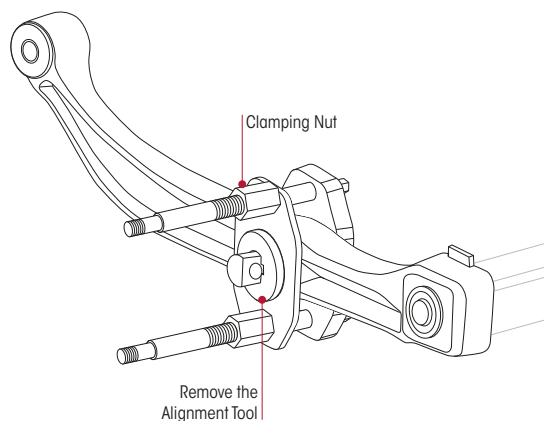

Figure 70: Tighten Nuts & Remove Alignment Tool
5. Tighten the clamping nuts to the clamping plate. Refer Figure 70.